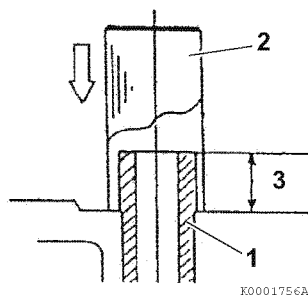

Figure 6-27
3. Finish installing the valve guides (Figure 6-27, (1)) into the cylinder head to the proper height (Figure 6-27, (3)) using the valve guide installation tool (Figure 6-27, (2)). See *Valve Guide Projection specification starting on page 6-5*.